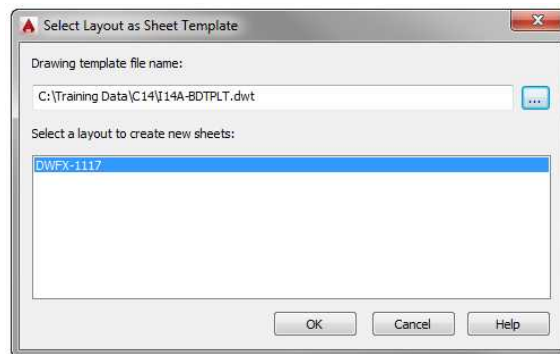

FIGURE 14.33: Selecting the sheet-creation layout template
Once you select the template file, the Select Layout As Sheet Template dialog box shown in Figure 14.33 opens.
13. Select the PDF-1117 (PDF-A3) layout from the list, and then click OK to exit the dialog box (see Figure 14.33).